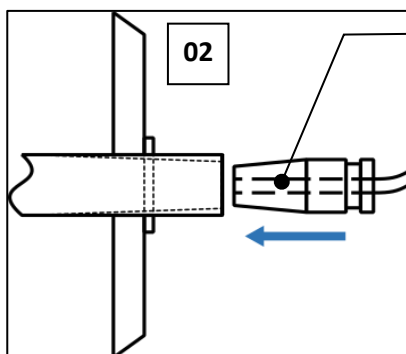

Fig. 27: Push on nozzle adapter
13) Attach the *nozzle adapter* (Fig. 27, No. 52) of the enclosed *connection kit* (Fig. 18, No. 51) on the fog outlet in the corresponding *cabin* (Fig. 27, No. 02).